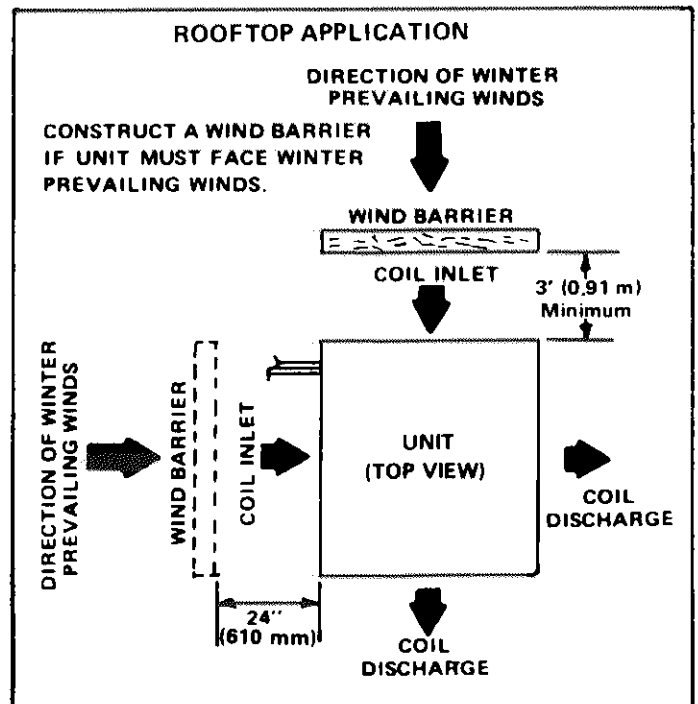

FIGURE 3
- 4 - When installed in areas where low ambient temperature exist, unit should be located so winter prevailing winds do not blow directly into outdoor coils. See Figure 3.
Refer to Figure 3.